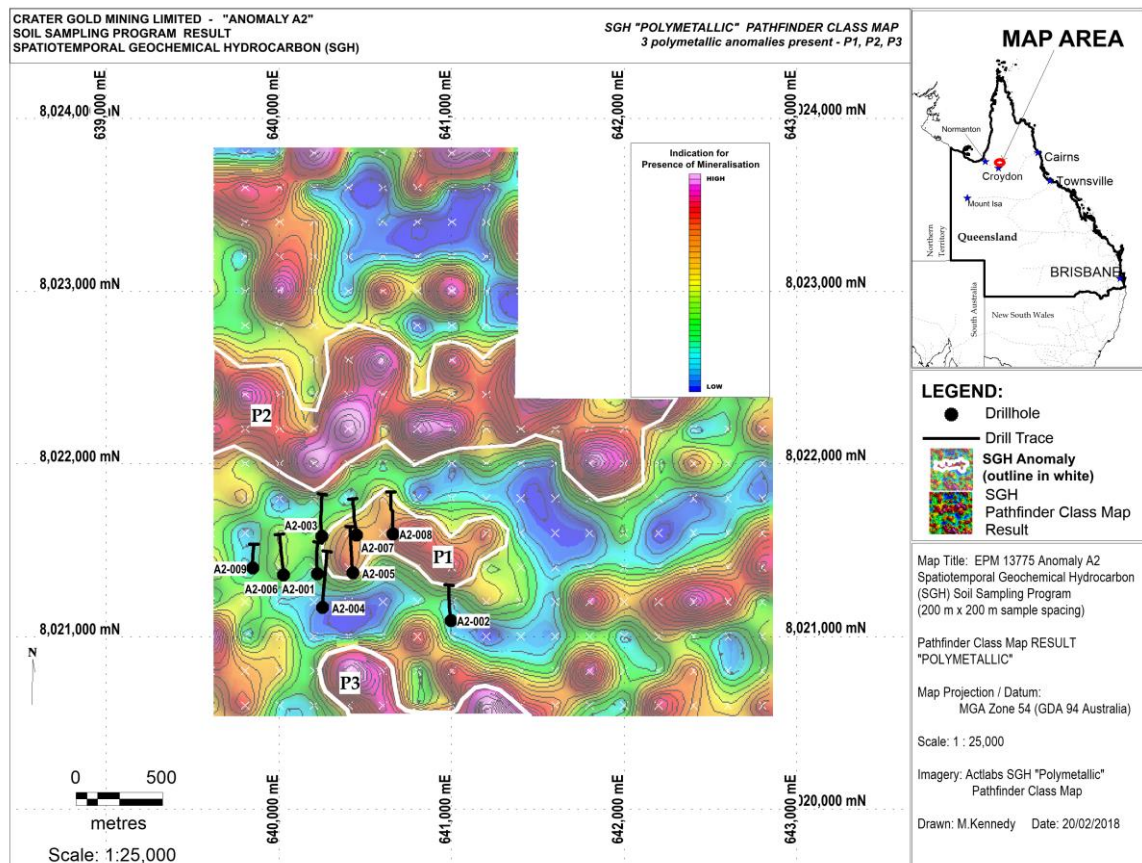
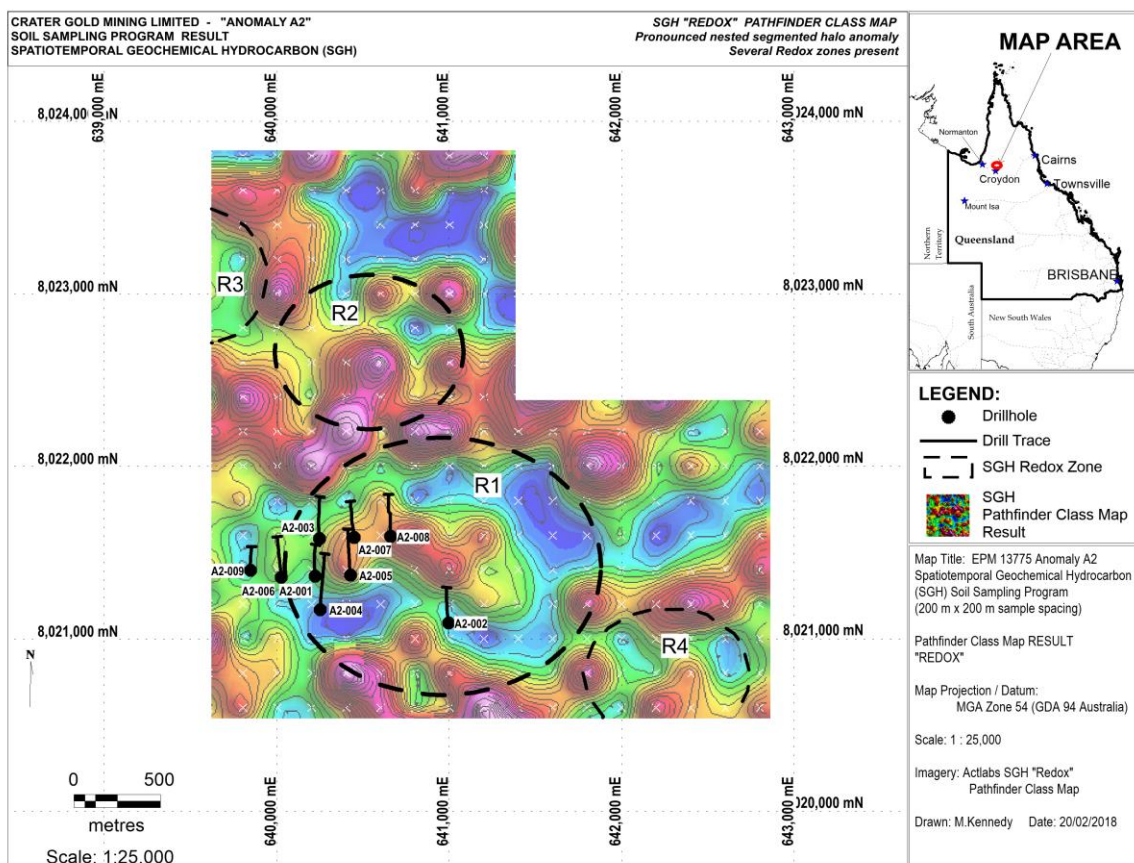

Figure 1 – Polymetallic targets P1, P2, P3
Figure 4- Redox cells
Three (3) identified polymetallic anomalies (P1, P2 and P3 – Figure 1) associated with Redox-cell R1 (Figure 4), are high priority drill targets to which Actlabs has allocated a high confidence rating of 5.5. Actlabs use a maximum rating score of 6.0, with a rating in excess of 4.0 considered to be significant.
Actlab's interpretation of Redox-cells is that the centre of the cell halo is expected to be the original location of the upwelling of mineralising fluids from depth and that the outer segments along the rims of the cells may represent the lateral extent of mineralisation. Their interpretation of the A2 SGH soil sample results has identified a number of nested-segmented Redox-cells in the survey area, shown as R1, R2, R3 and R4 on Figure 4.